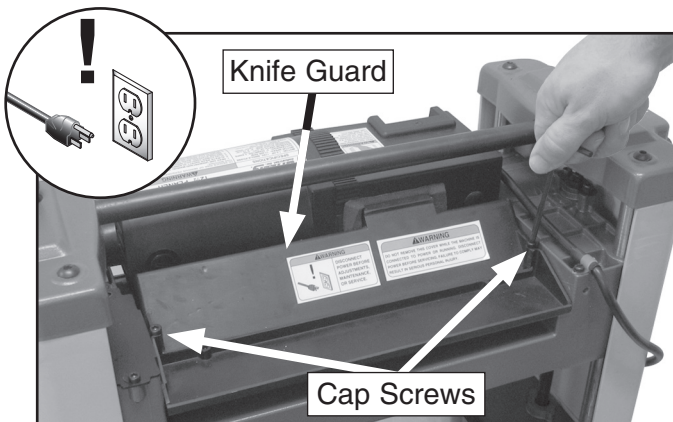

Figure 19. Removing knife guard.
2. Remove the cap screws from the knife guard, then remove the guard (**Figure 19**).